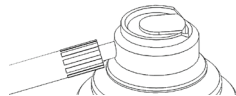

Fig. 5
4. Insert spray adapter completely into back of handpiece and hold it in place (Fig. 5).